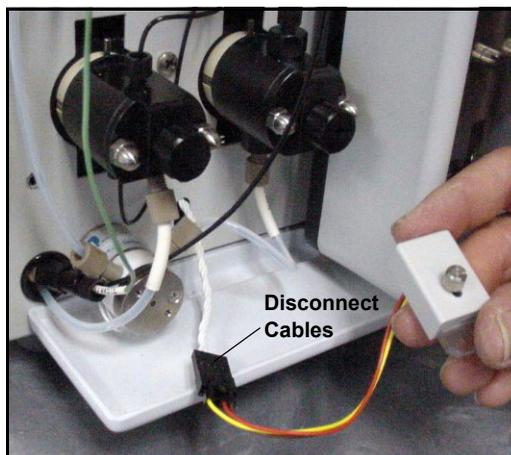

Figure 5-26. Leak Sensor Cable
5. The cable attached to the leak sensor connects to a cable inside the ICS-1500. Continue pulling the cable until the connectors for the two cables are outside of the panel (see Figure 5-26).